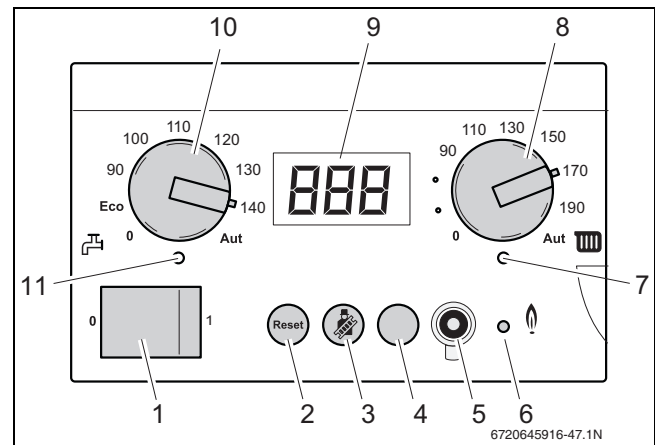

Fig. 73 BC10 basic controller
- ▶ Set the upper space heating water temperature limit for heating mode with the “space heating water temperature” knob (→ fig. 73, [8]) (→ table 19). This limitation does not apply to DHW preparation.
- ▶ Set the DHW temperature knob (→ fig. 73, [10]) to the required temperature of the hot water in the hot water cylinder (→ table 20).
- ▶ Switch OFF the appliance by pressing the main switch of the BC10 (→ fig. 73, [1]).
- ▶ Switch off OFF appliance by pressing the main switch of the BC10 (→ fig. 73, [1]).